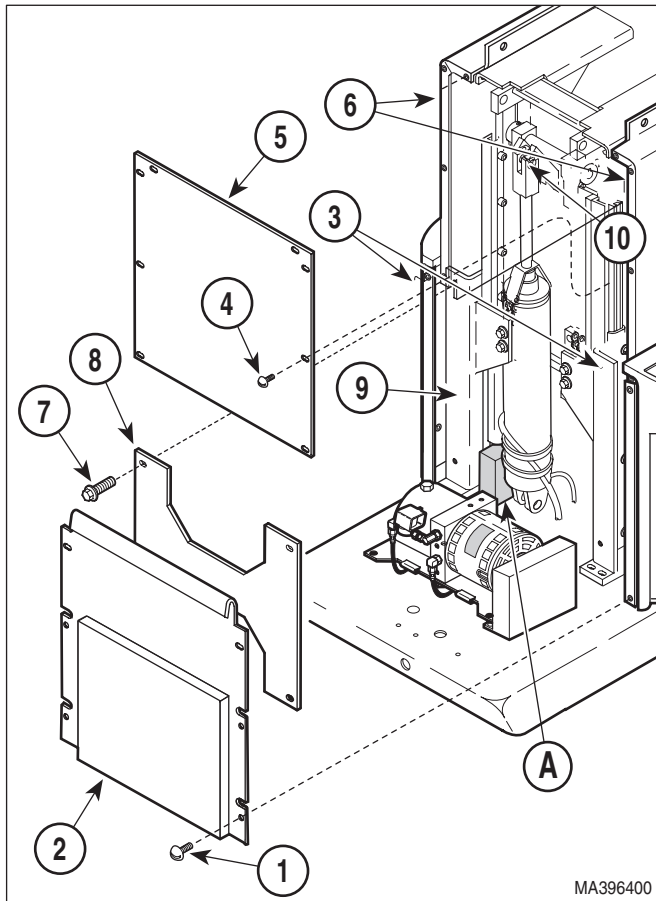
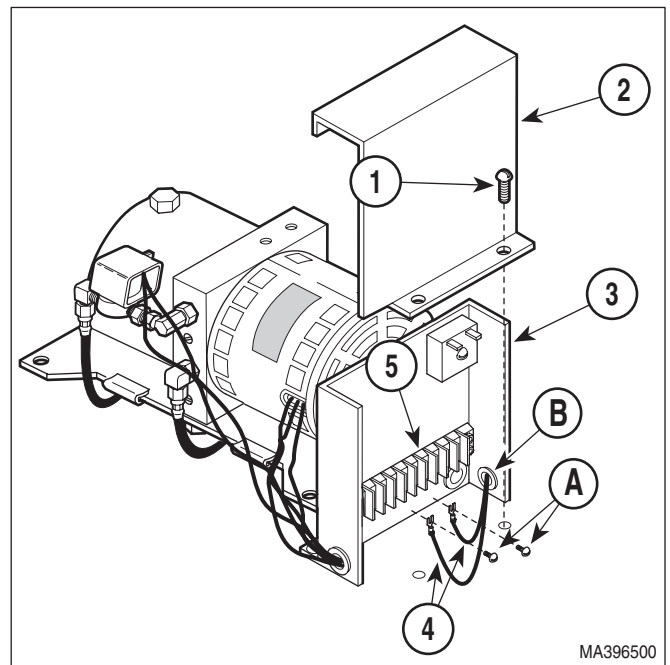
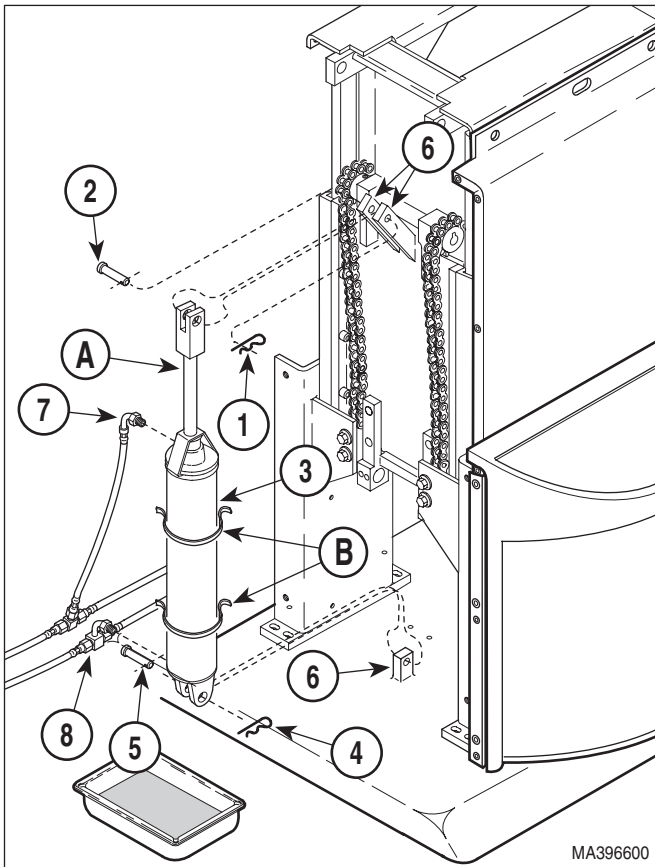
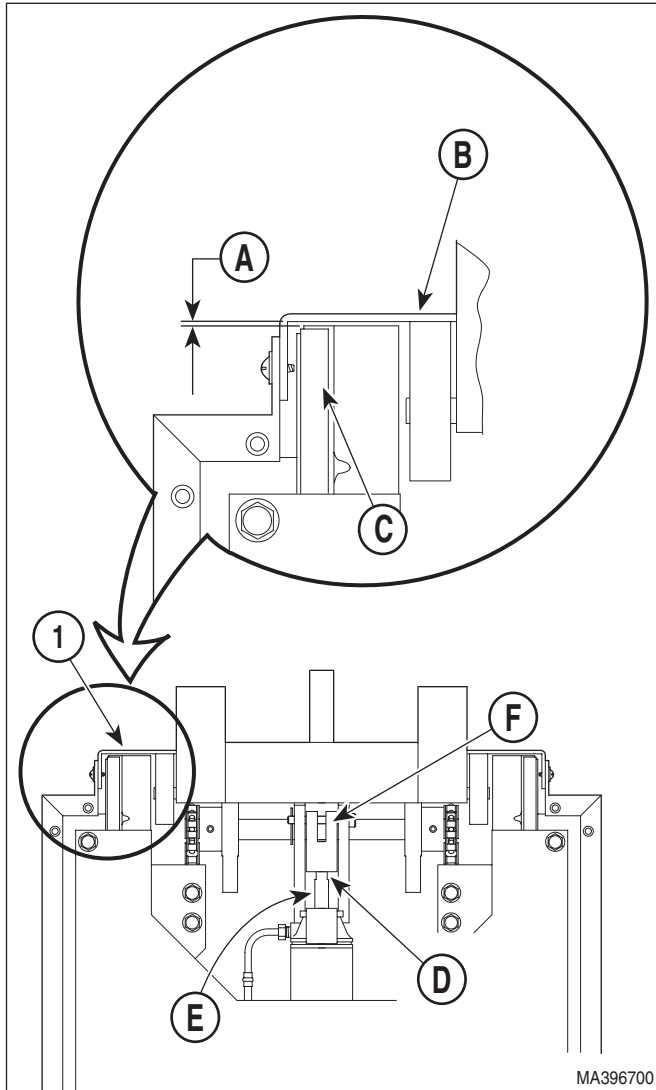

Figure 4-16. Base Cylinder Access
Figure 4-17. Base Cylinder Wires Disconnection / Connection
Figure 4-18. Base Cylinder Removal / Installation
Figure 4-19. Base Cylinder Clevis Adjustment
- (1) Unplug table power cord from outlet.
- (2) Remove motor cover assembly (Refer to para 4.2).
- (3) Remove four screws (1, Figure 4-16) and back outer shroud (2) from left and right hand outer shrouds (3).
- (5) Remove four screws (7) and brace (8) from base slide assembly (9).
- (6) Plug table power cord into outlet.
- (7) If BASE DOWN function is operable, place a block (A) under middle slide of base slide assembly (9). Then lower the BASE DOWN function until the middle slide of the base slide assembly is resting on block and pressure is off clevis pin (10). If BASE DOWN function is not operable, move table top to a horizontal position and place supports under each end of table.
- (8) Remove two screws (1, Figure 4-17) and control cover (2) from control panel (3).
Make sure table top is properly secured from lowering or tipping over when base cylinder is disconnected from table top. Clevis pin (2, Figure 4-18) should not have any weight on it if table top is supported properly. Failure to have table top properly secured could result in serious personal injury or death.
- (11) Remove hitch pin clip (1, Figure 4-18) and clevis pin (2) from rod end (A) of base cylinder (3).
- (1) Position base cylinder (3, Figure 4-18) on table.
- (2) Connect base tee (8) to base cylinder (3).
- (3) Connect hose assembly (7) to base cylinder (3).
- (4) Secure hose assembly (7) to base cylinder (3) with two cable ties (B).
- (5) Install base cylinder (3) on brackets (6) and secure with clevis pins (2 and 5) and hitch pin clips (1 and 4).
- (6) Feed base cylinder wires (4, Figure 4-17) thru wire hole (B).
- (7) Connect two base cylinder wires (4) to terminal block (5) and secure by tightening two terminal screws (A).
- (8) Install control cover (2) on control panel (3) and secure with two screws (1).
- (9) Plug table power cord into outlet.
- (10) See Figure 4-16. Raise BASE UP function slightly and remove block from under middle slide of base slide assembly (9) or remove supports from under table top.
- (11) Lower BASE DOWN function all the way down.
- (12) See Figure 4-19. If there *is not* a 1/16 to 1/8 inch (1.6 to 3.2 mm) gap (A) between inner member weldment (B) and top of middle slide (C) when the BASE DOWN function is completely lowered (it is especially important that the inner member weldment does not come into contact with top of middle slide), perform steps 13 thru 15. If gap is correct when the BASE DOWN function is completely lowered, go to step 16.
- (13) Raise BASE UP function up until cylinder rod is extended halfway.
- (14) Place a wrench on adjusting seats (D) of cylinder rod (E) and use it to rotate cylinder rod to adjust clevis (F) up or down as necessary.
- (15) Repeat steps 11 thru 15 until there *is* a 1/16 to 1/8 inch (1.6 to 3.2 mm) gap (A) between inner member weldment (B) and middle slide (C) of base slide assembly when the BASE DOWN function is completely lowered.
- (16) Install brace (8, Figure 4-16) on base slide assembly (9) and secure with four screws (7).
- (17) Install any cable ties (B) removed during removal.
- (18) Install back inner shroud (5) on left and right hand inner shrouds (6) and secure with eight screws (4).
- (19) Install back outer shroud (2) on left and right hand outer shrouds (3) and secure with four screws (1).
- (20) If necessary, add oil to motor pump (Refer to para 4.3).
- (21) Install motor cover assembly (Refer to para 4.2).